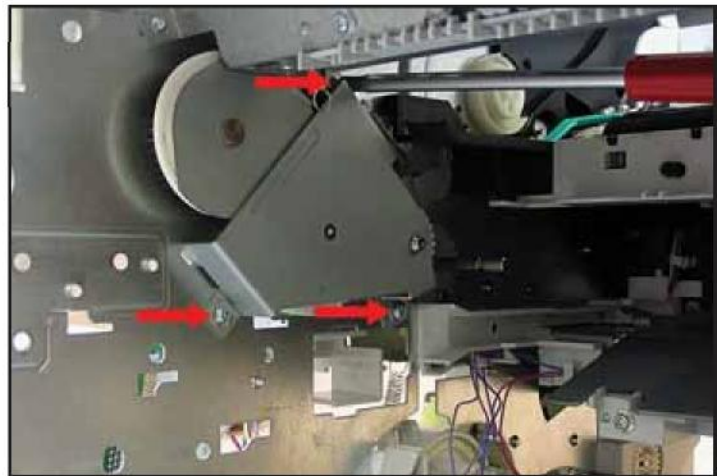

Figure 19 – The red arrows indicate the three screws that hold on the swing plate assembly.
13. Finally, remove the white 23-tooth gear (Figure 18) and the three screws that hold the swing plate assembly in place (Figure 19, arrows).